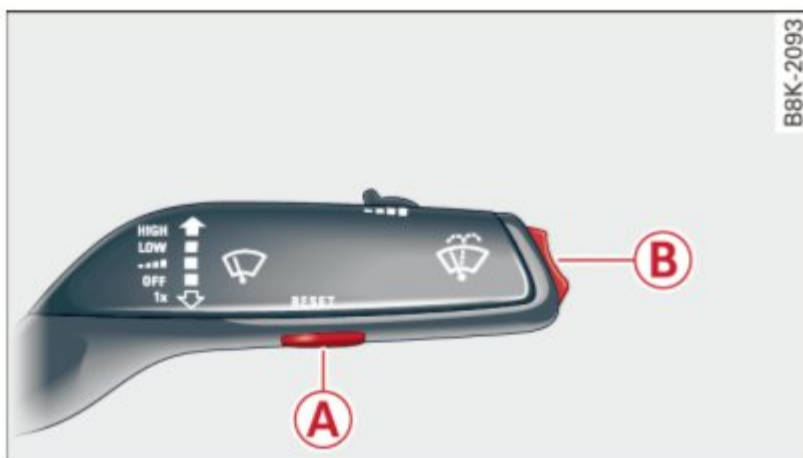

Fig. 11 Windshield wiper lever: controls for the trip computer
You can switch between the trip computer 1 and 2 and the efficiency program* by pressing the **RESET** button **(A)** ⇨ page 26, fig. 11.
- ▶ To display the trip computer memory levels, press the **RESET** button **A** ⇒ *fig. 11* repeatedly until the desired memory level is shown in the display.
- ▶ Press the **RESET** button **(A)** ⇒ *page 26, fig. 11* repeatedly until the efficiency program appears in the display.
- ▶ In the efficiency program, press the function selection switch ⇒ *page 26, fig. 11* (B) repeatedly until the enhanced shift indicator appears in the display.
- ▶ In the efficiency program, press the function selection switch ⇒ *page 26, fig. 11* (B) repeatedly until the other equipment appears in the display.
- ▶ To turn a fuel economy message off immediately after it appears, press the **RESET** button ⇒ page 26, fig. 11 (A), or
- ▶ Press the function selection switch ⇒ page 26, fig. 11 (B).